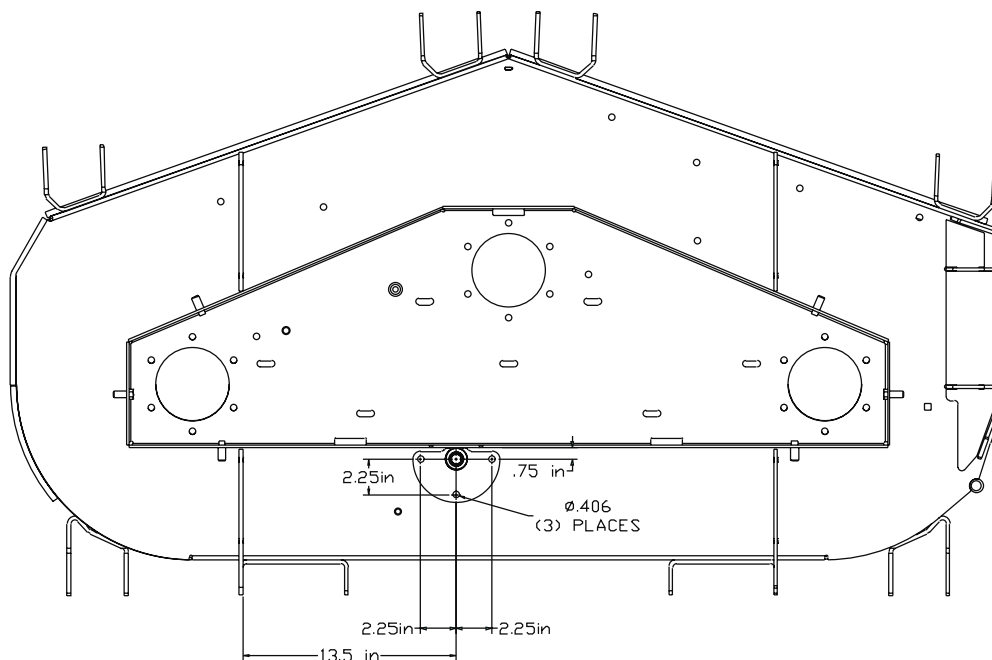

FIGURE 1
2. Locate new pin weldment as shown in **Figure 1**, mark and drill three 11/32" holes.